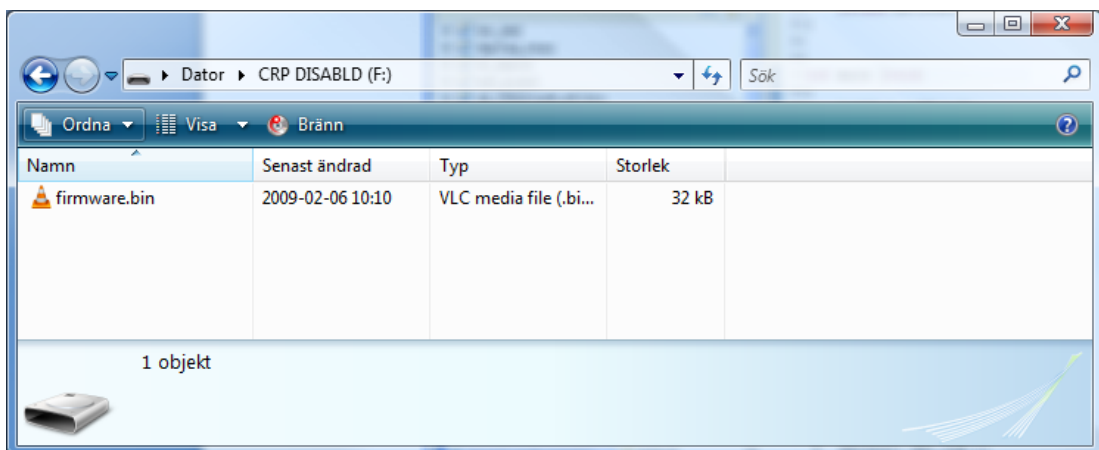

Figure 18 – Mass Storage Device
6. Hold down the SW3 button and then press and release the reset button on the LPCXpresso base board. A storage device named CRP DISABLED will now appear on your computer, see Figure 18.